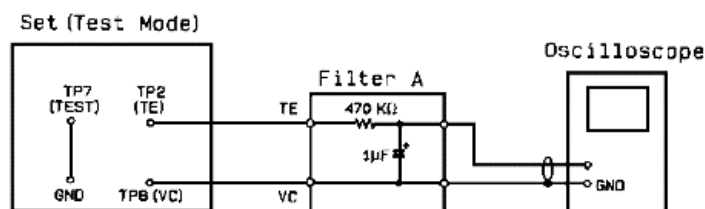

FIGURE 30-47 How to connect the scope through a filter network for EF balance adjustment at TP2 and TP8.
- 1 Connect an oscilloscope to TP2 (TE) and TP8 (VC) through filter A. Notice that TP8 must be connected to ground on the scope (Fig. 30-47).
- 4 Now, adjust potentiometer P1 so that TP2 (TE) voltage becomes 20 mV.